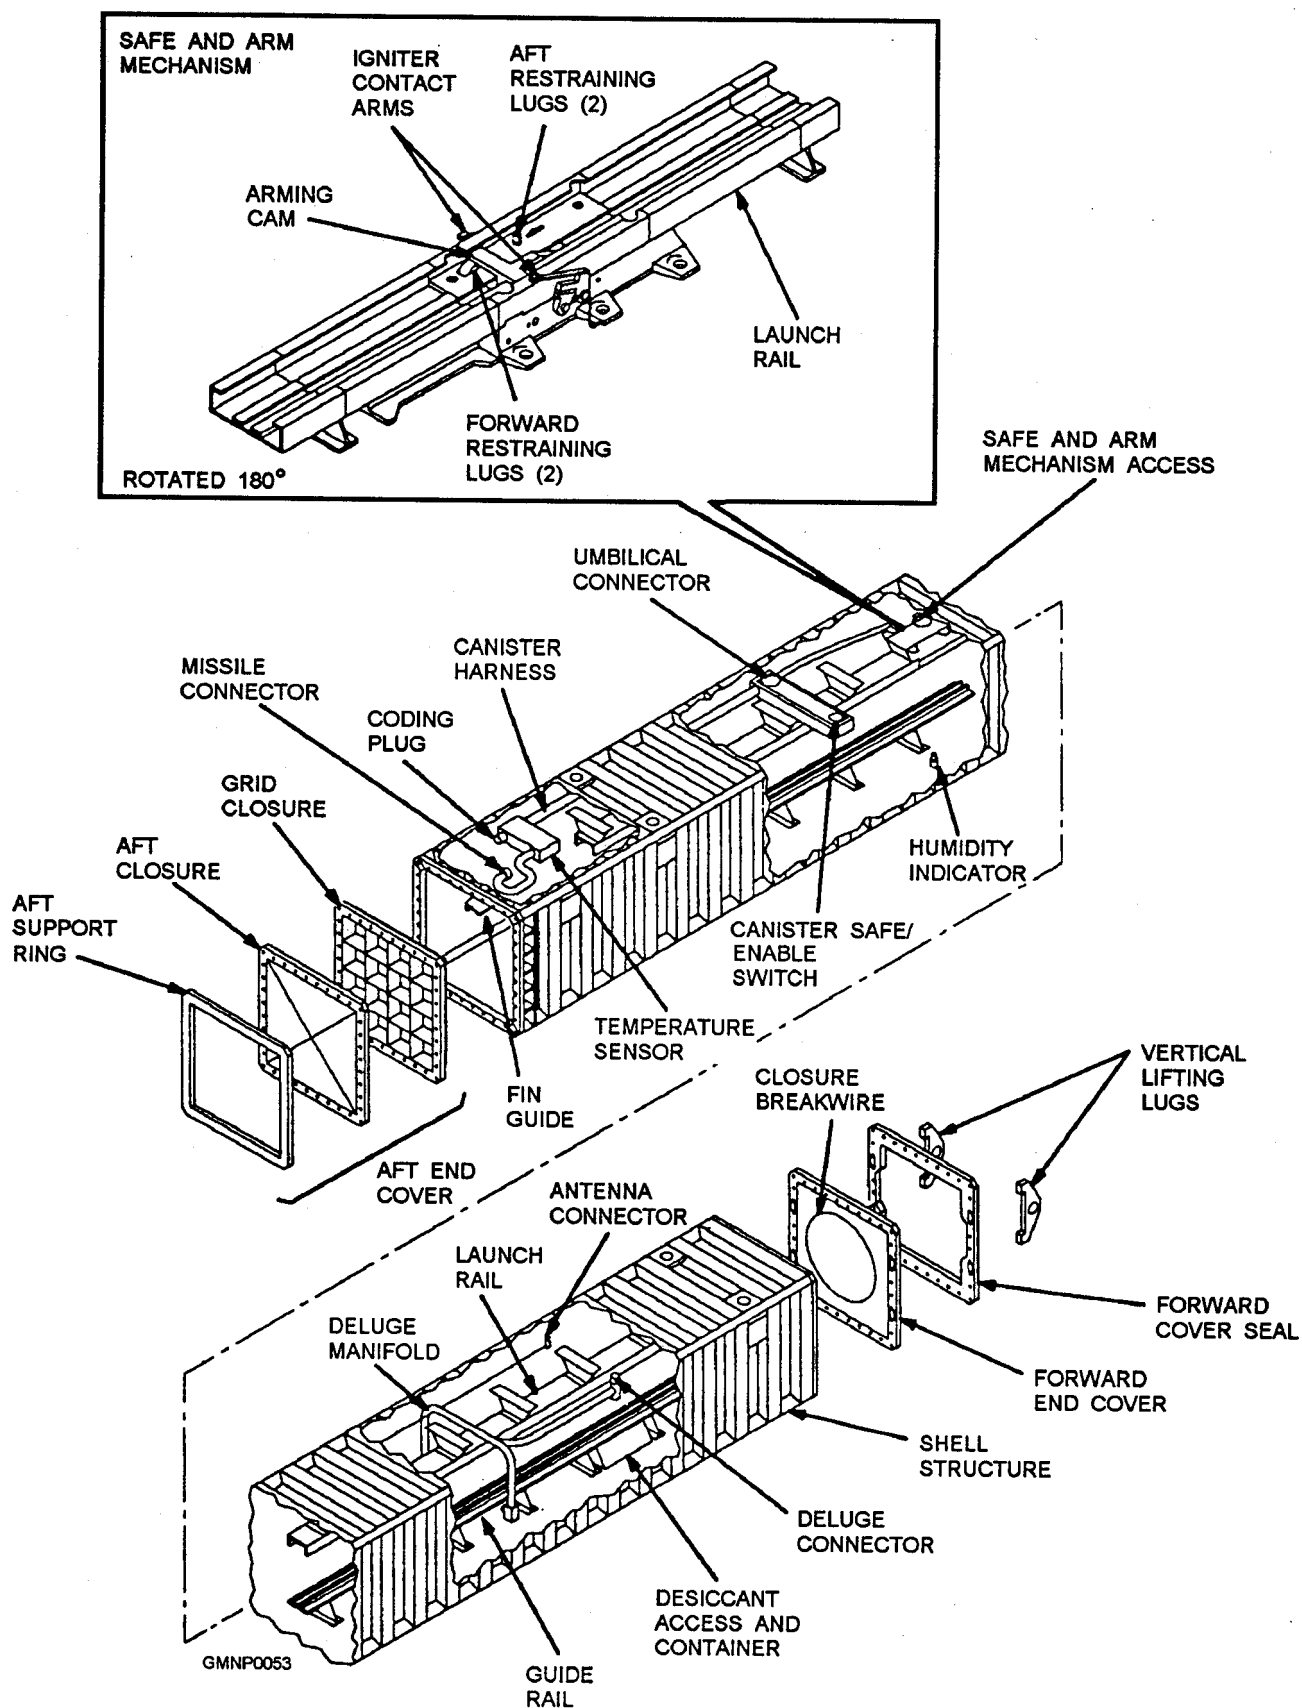

Figure 2-38.—Mk 13 Mod 0 VLS canister.
**MK 13 MOD 0 VLS CANISTER.**— The Mk 13 Mod 0 canister houses the SM-2 BLK 11, 111, 111A, and 111B missiles (fig. 2-38). A Safe and Arm (S&A) mechanism on the launch rail is used to restrain the